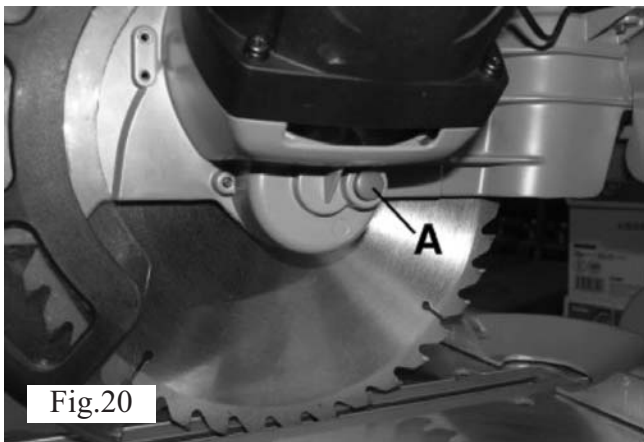

Fig.20
6. Completely depress the spindle lock button (A) Fig. 20 using one hand. Rotate the blade by hand until the spindle locks.